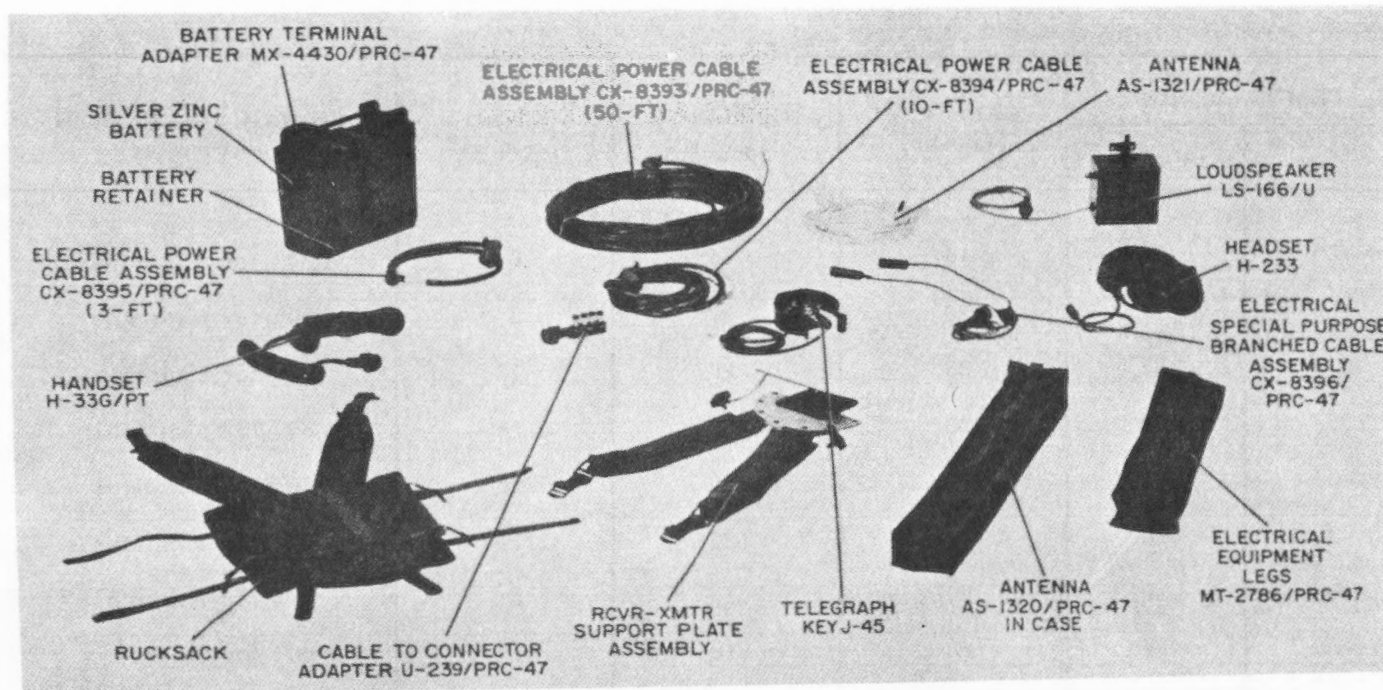

Figure 1-7. Radio Set AN/PRC-47, Accessories
d. POWER CABLES.- Three separate power cables are provided with the equipment for the three applications described in paragraph 1-2a (see figure 1-7). Electrical Power Cable Assembly CX-8395/PRC-47 is used in the portable application to connect the battery power supply to Radio Receiver-Transmitter RT-671/PRC-47. Electrical Power Cable Assembly CX-8394/PRC-47 is used in the mobile application to connect a 26.5-volt d-c system to RT-671/PRC-47. Electrical Power Cable Assembly CX-8393/PRC-47 is used in the fixed site application to connect a 115-volt, single-phase, 400-cps source to RT-671/PRC-47.
Antenna AS-1320/PRC-47 consists of nine sections which can be assembled quickly by hand (see figure 1-7). Antenna AS-1321/PRC-47 (see figure 1-7) is a 45-foot antenna with insulators at 15 feet and 25 feet. Jumpers with alligator clips are permanently attached near the insulators so that the correct antenna length for the operating frequency may be chosen by shorting out the insulators as required.
h. AUDIO ACCESSORIES. - Voice operation of the radio set is accomplished with Handset H-33E/PT. This handset is connected directly to the control panel of the receiver-transmitter (see figure 1-7). Two audio receptacles are provided on the control panel so that two handsets may be connected.
For CW operation, Headset H-233 and Telegraph Key J-45 are used (see figure 1-7). They are connected through Electrical Special Purpose Branched Cable Assembly CX-8396/PRC-47 to one of the audio receptacles on the control panel.